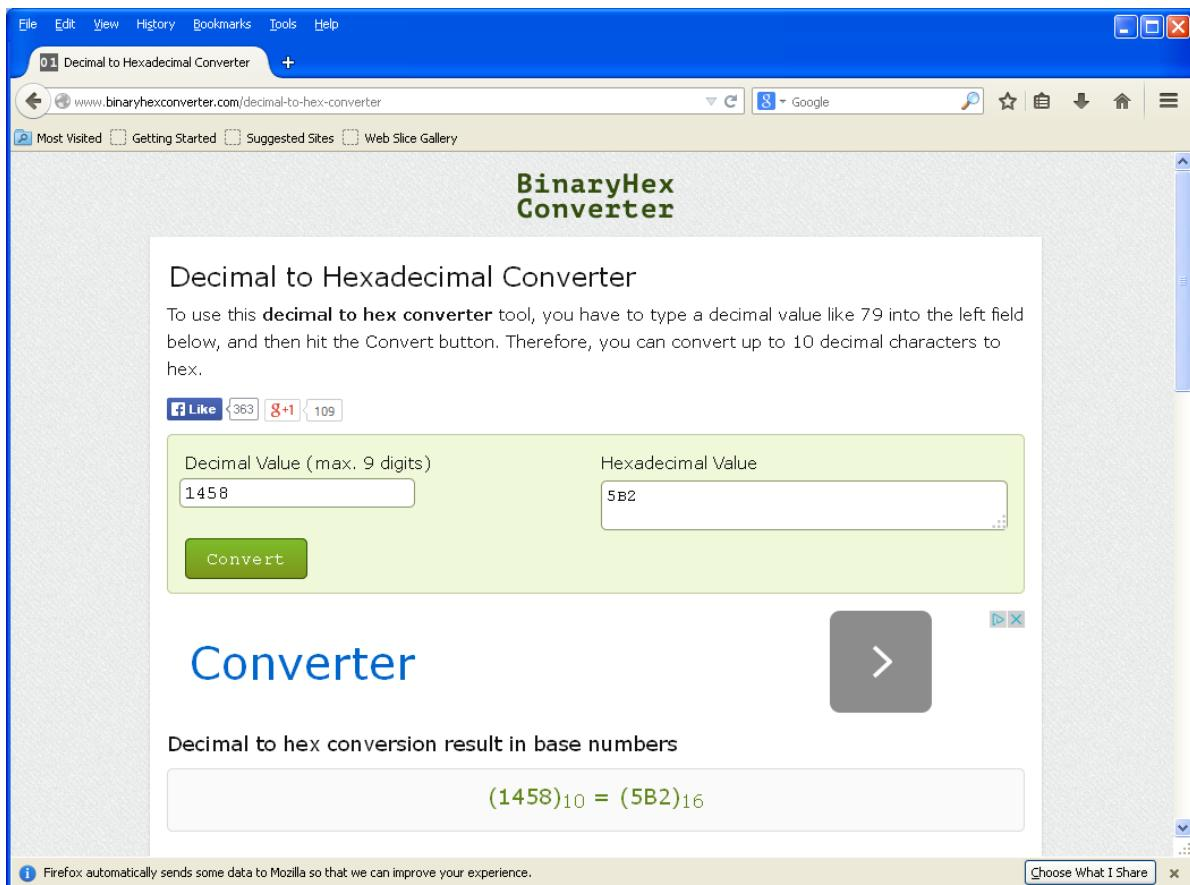

FIGURE 6-22. Web-based decimal to hexadecimal converter
2. Remove the CPU module and note the serial number. Convert the serial number from decimal to hexadecimal (base 16). Web-based converters are available. FIGURE 6-22 shows an example, converting serial number 1458 to its representation in hexadecimal, 5B2.
7. Enter **1** (Ethernet Address). At the prompt, enter **0x** followed by a four-digit hexadecimal value. If the serial number in hex is less than four digits, use leading zeros to create a four digit hex number. In the example shown in FIGURE 6-22, the serial number entered would be **0x05b2**.